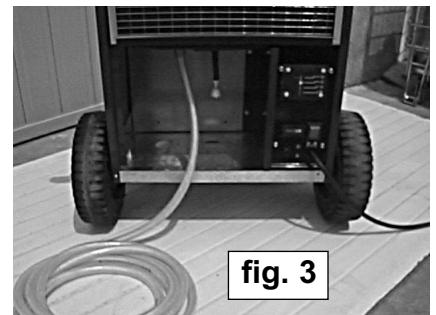

fig. 3
- B) Water may be removed by connecting a plastic hose with an internal diameter of 14mm to the hose holder in the drain compartment. (Plastic hose not supplied.) See fig.3.